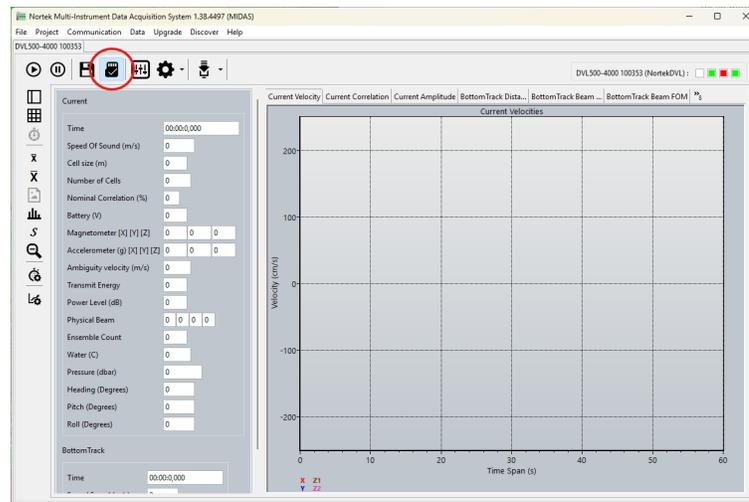

Figure 17: Midas Save to DVL Recorder
- Alternatively, one may configure recording the spectrum to file on the DVL's recorder. Naturally the recording option is more sensible if there is not a suitable, real-time, communication channel and the DVL/Vehicle is below the surface. This is done by selecting the SD card icon on the Midas home screen (figure 17). Contact Nortek for assistance to view recorded data.